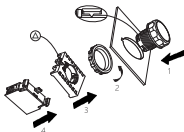
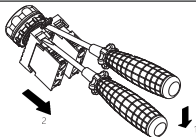

Figure 3 Assembly process
Figure 5 Dismantle the contact assembly and operation head
4) See Figure 3 - Figure 5 for assembly and disassembly drawings